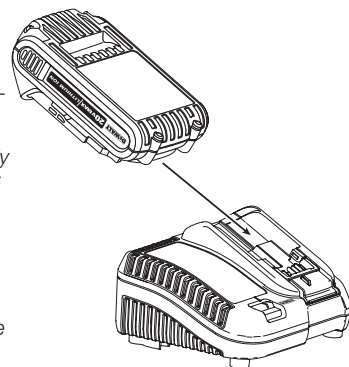

Fig. 3
## **Charging a Battery (Fig. 3)**
1. Plug the charger into a FIG. 3 appropriate outlet before inserting battery pack.